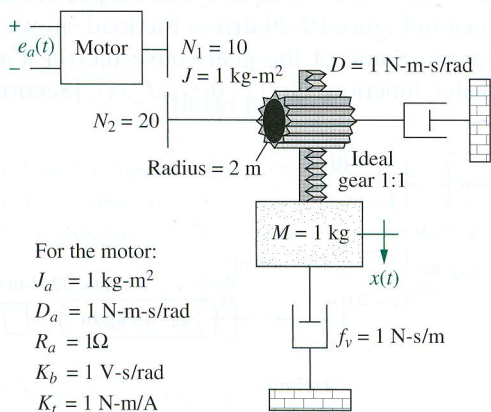

FIGURE P2.31
46. Find the transfer function,  $G(s) = X(s)/E_a(s)$ , for the system shown in Figure P2.31. [Sections: 2.5–2.8]